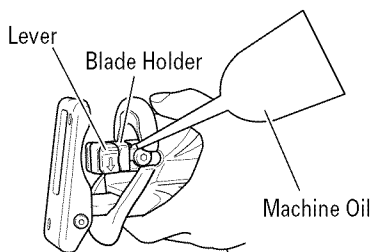

Fig. 9
- (1) After use, blow away sawdust, earth, sand, moisture, etc., with air or brush them away with a brush, etc., to ensure that the blade mount can function smoothly.
- (2) As shown in Fig. 9, carry out lubrication around the blade holder on a periodic basis by use of cutting fluid, etc.